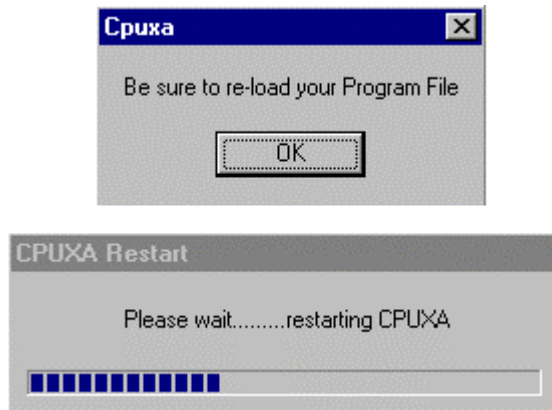

Fig. 103
7) Once each module has been addressed, click Close with the left mouse button. The following windows will appear (fig 103): Click OK with your left mouse button.